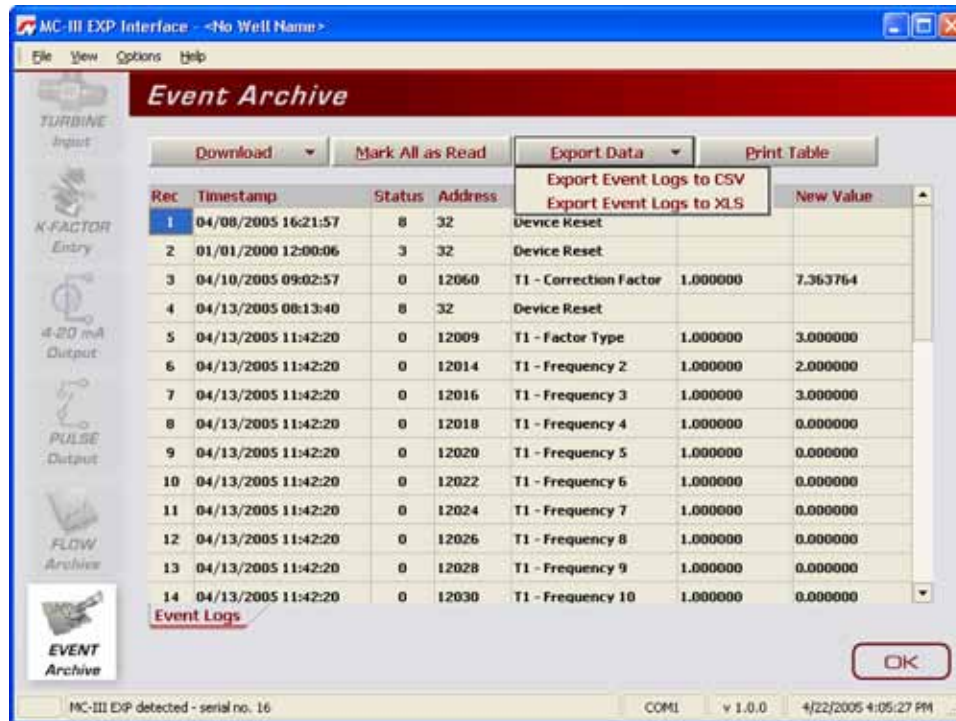

Figure 5.17—Dropdown menu for exporting log data
1. Click the “Export Data” button near the top of the Event Archive screen and select the .xls or .csv format (Figure 5.17, page 85).